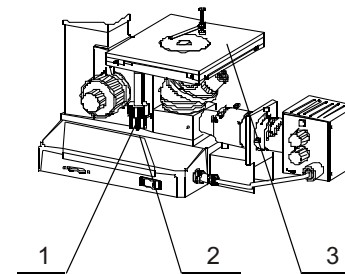

Figure 5
4. Mechanical Stage Controls, see figure 5, the coaxial transverse/longitudinal knob allow for easy adjustment.